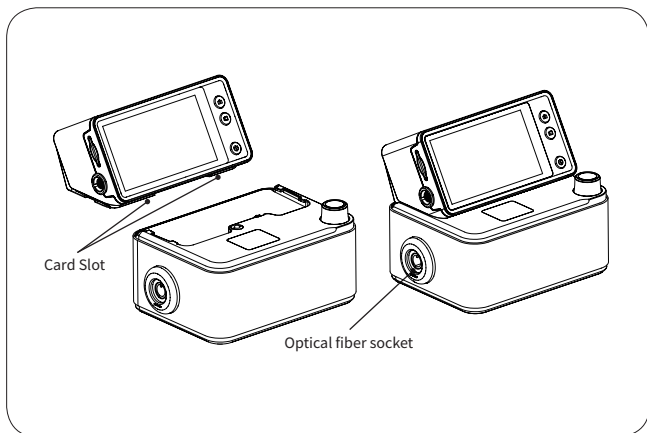

Figure 3 Light Source Installation
(1) Option 1: Portable LED light source
(2) Option 2: If the LED light source is selected, the main recording unit and light source base shall be installed. Spring contacts are used to connect the light source base and main recording unit. The light source base shall be connected to a power supply (as shown in Figure 3). Here are the detailed steps: